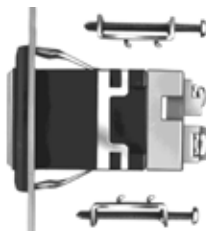

Figure 8: SLC40
**Single units:** With leaf springs installed, push the SLC housing from the front of the panel. Secure the SLC housing with two mounting clips. Tighten the mounting clip screws to a torque of 4 to 5 kgf-cm as shown in Figure 8.